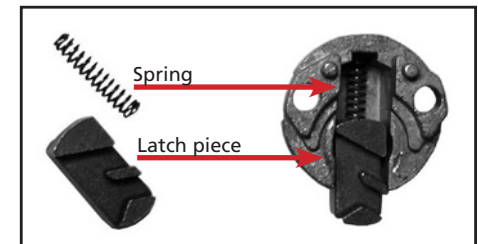

Figure 6
6. Place the spring in the channel of the cap and place the latch piece over it. **(Fig. 6)**